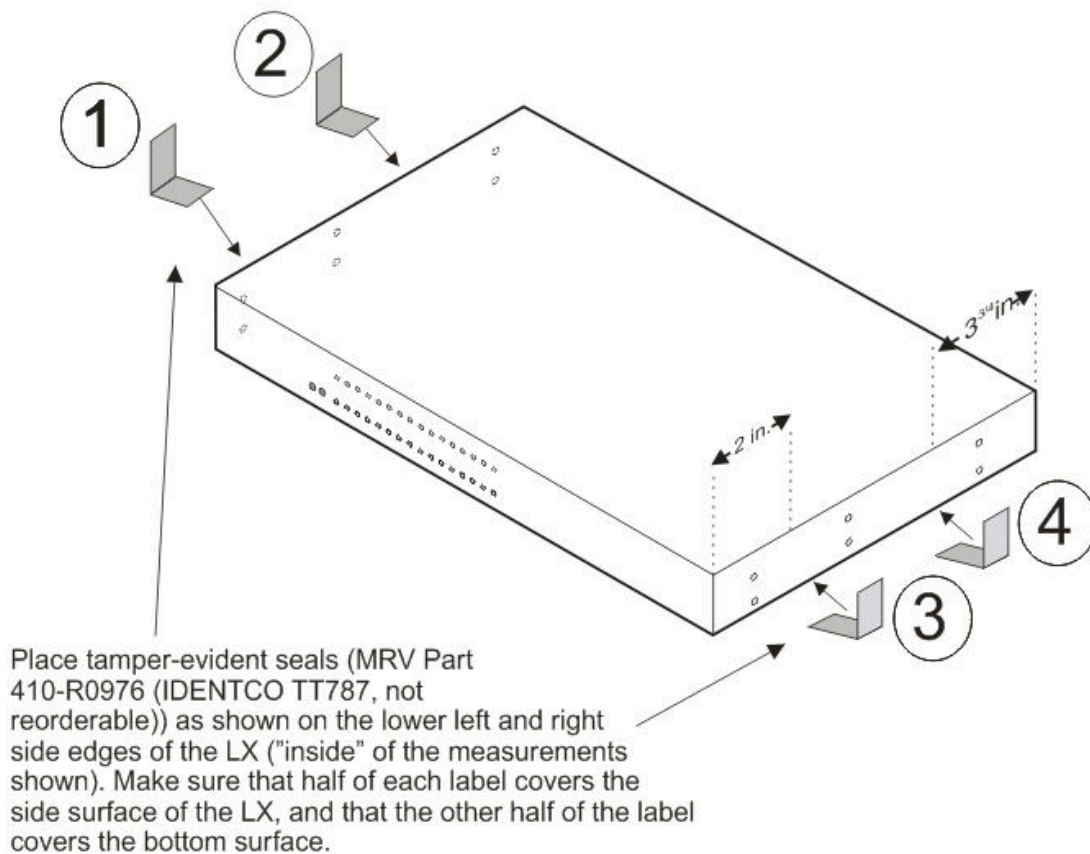

Figure 4 Tamper Evident Label Recommended Placement
2. Apply two labels each to the bottom left and right sides of the unit, as shown in Figure 4 Tamper Evident Label Recommended Placement.